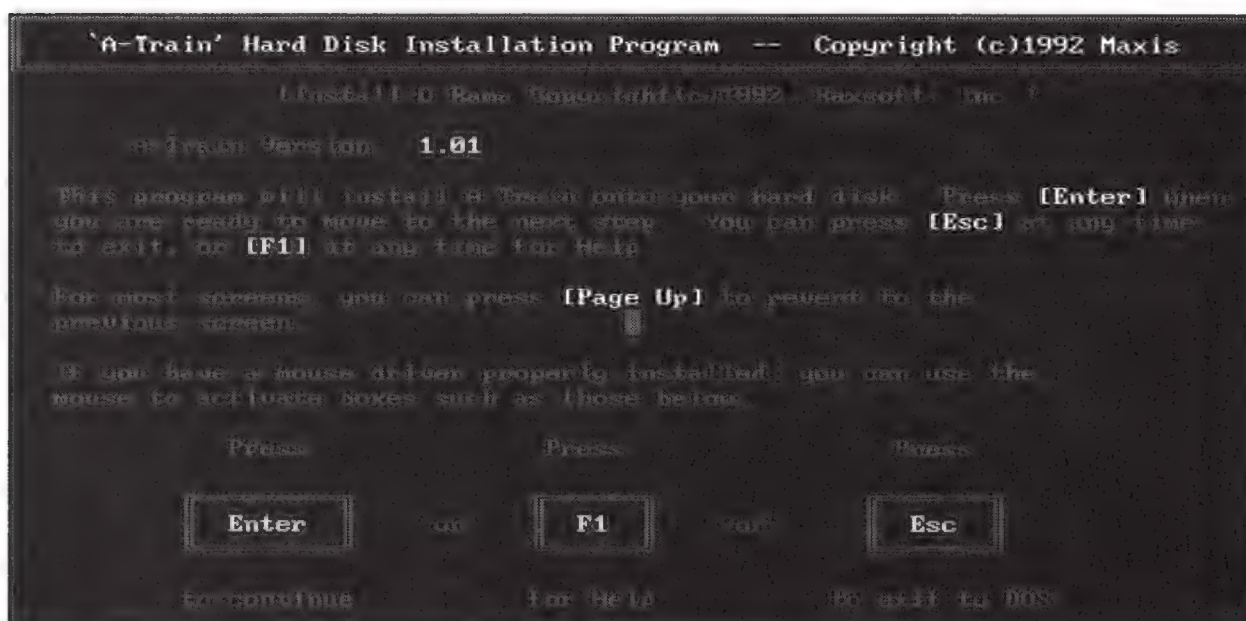

Figure A.1 Opening installation screen for A-Train
3. Type INSTALL, then wait until you see the screen as pictured in Figure A.1.